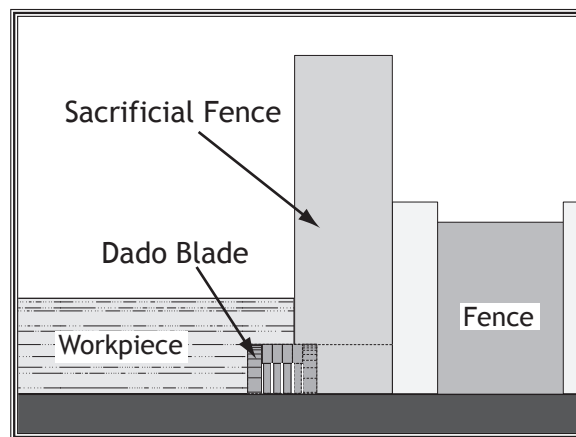

Figure 56. Rabbet cutting with a sacrificial fence.
3. Adjust the fence and align the workpiece to perform the cutting operation, as shown in **Figure 56**.